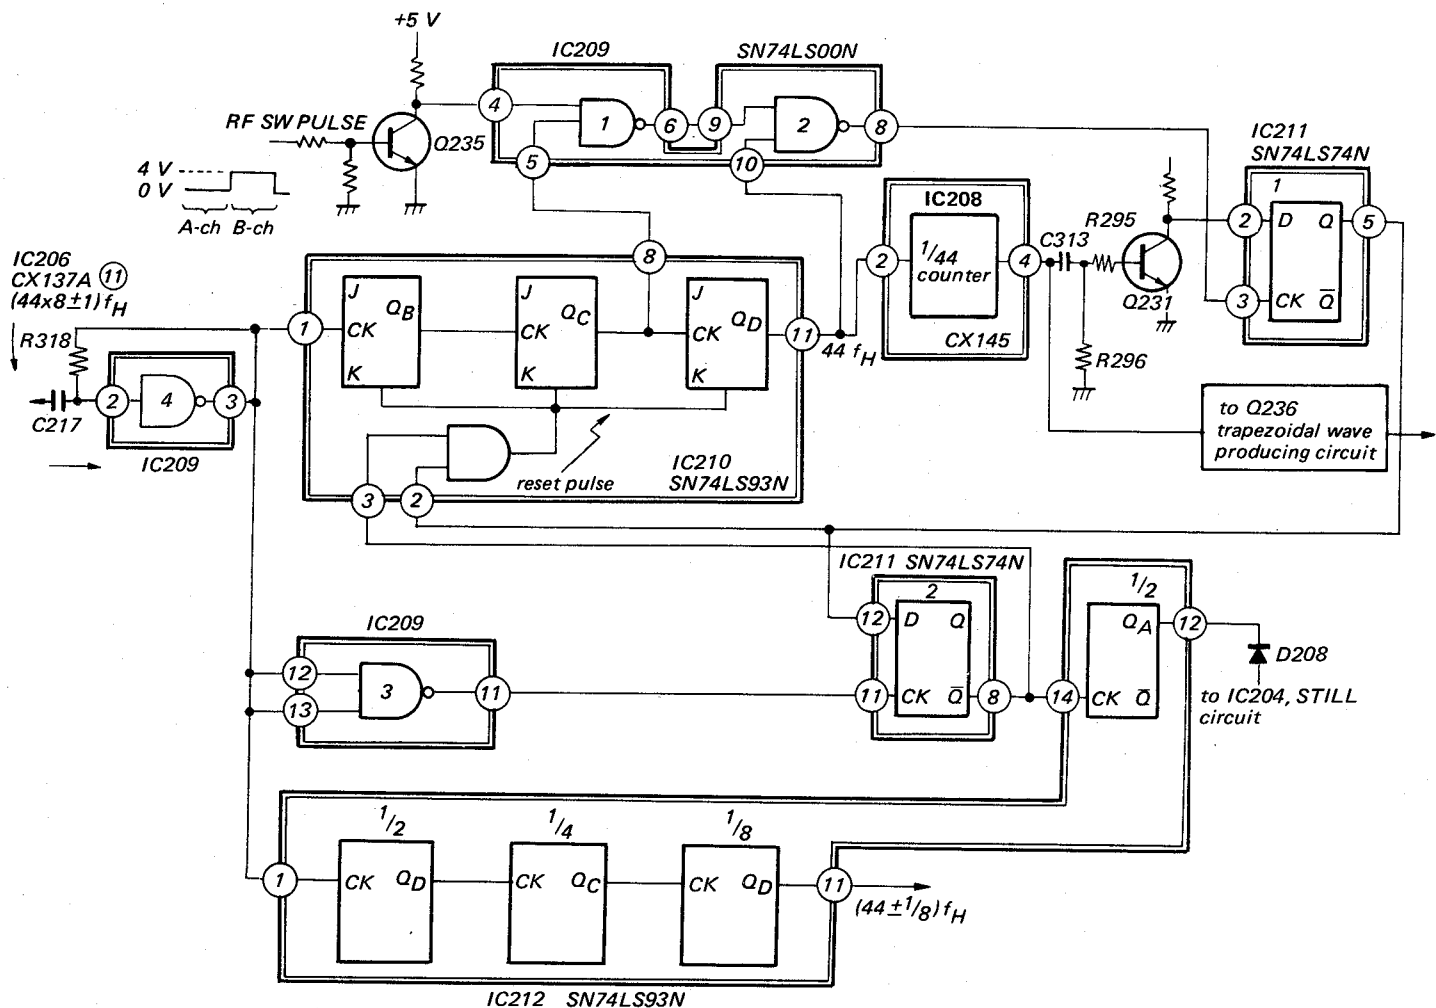
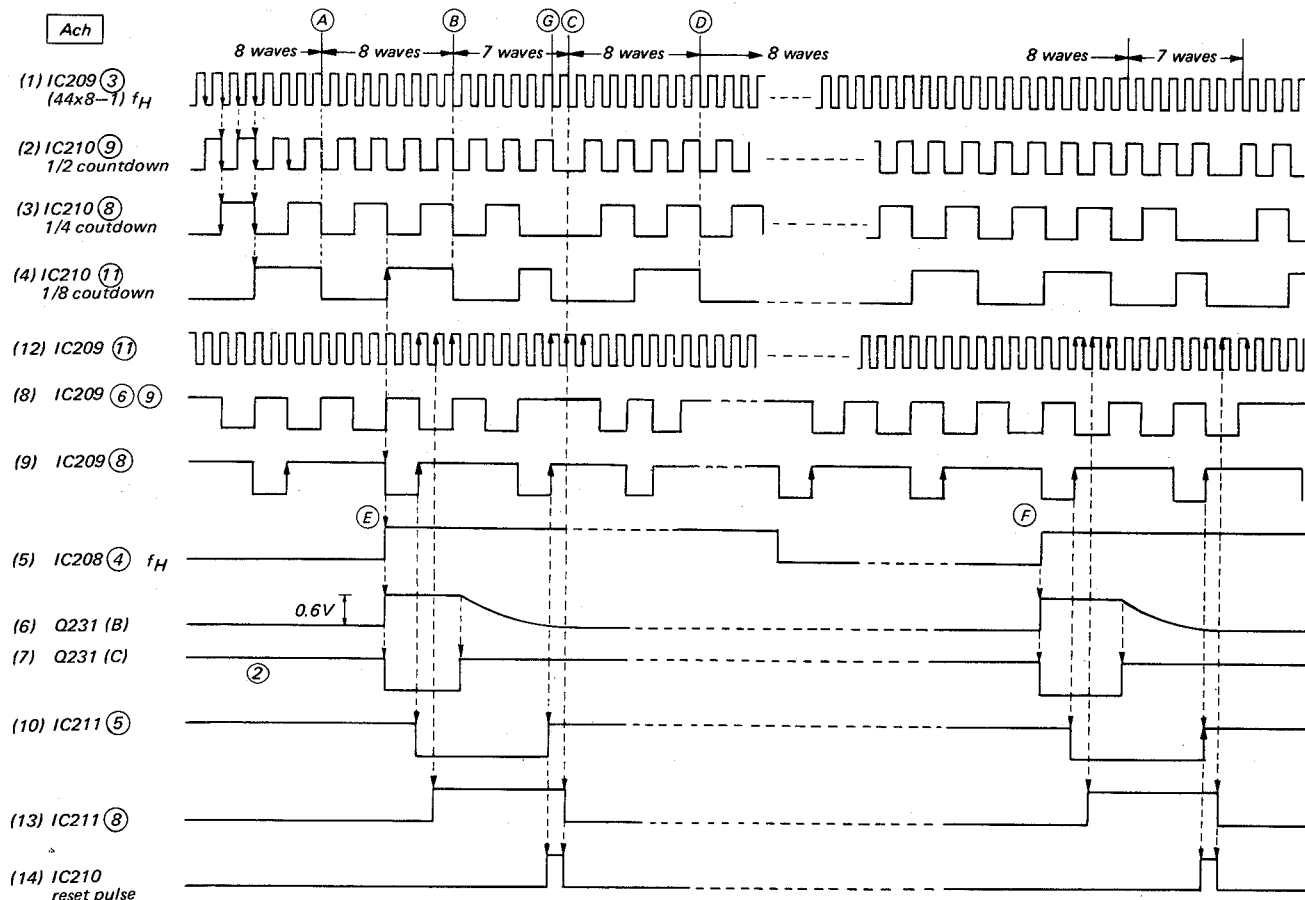

Fig. 3-32
Fig. 3-33
The $\frac{44}{44 \times 8 \pm 1}$ countdown circuit contained in the AFC loop divides the $(44 \times 8 \pm 1)$ fH into 44 fH to supply the 44 fH to the 1/44 countdown circuit in the CX145 and produces the signal for the $(44 \pm 1/8)$ fH chroma conversion carrier. The schematic diagram is shown in Fig. 3-32 and the time chart in Figs. 3-33, 3-34.
The following description is the case that the RF switching pulse is the A channel. The $(44 \times 8 - 1)$ fH oscillating output from the VCO (at pin 11 of IC206, CX137A) is amplified in IC209 #3, and applied to pin 1 of IC210, SN74LS93N. The integrated circuit is a TTL IC for the binary and octal counters. The octal counter output appears at pin 11 of IC210. The IC209 #3 wave form of $(44 \times 8 - 1)$ fH represented by (1) in Fig. 3-33 is divided by 8 and appears at pin 11 in the wave form (4) in the time chart. The output
from pin 11 of IC210 is counted down to $1/44$ in the CX145. When the $1/44$ counted-down pulse rises at Point E in Fig. 3-33, the wave form at pin 4 of IC208 becomes as shown in (5) and differentiated in the C313, R296 circuit. The differentiated wave from at the Q231 base is shown in (6) and the wave form at Q231 collector in (7). This signal acts as the data input to IC211, SN74LS74N. Since the RF switching pulse is 0 V in the A channel, the Q235 collector is 5 V and NAND gate 1 operates with the inputs from pin 5. In this case the gate 1 works as INVERTER for (3) the $1/4$ counted-down output from pin 8 of IC210. The output of the NAND gate (8) appears at pin 6 of IC209. Similarly NAND gate 2 of IC211 is the NAND gate for (8) and (4) wave forms in the time chart. Its output (9) appears at pin 8 of IC209 and supplied to flip-flop 1 of IC211 as the clock signal. Since the data input is Q236 collector wave form (7), the flip-flop output appears at pin 5 of IC211 in the